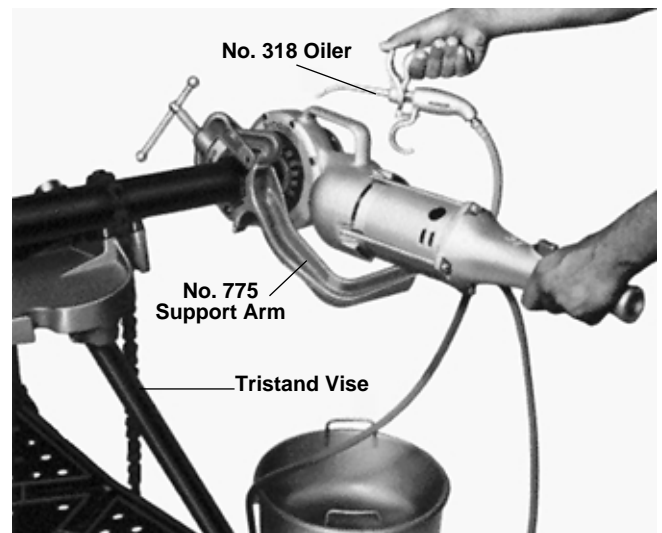

Figure 4 – Threading 2" Pipe with Vise
When threading pipe 1 inch or larger, the No. 775 Support Arm should be used and securely locked on pipe because of torque developed during threading (Figures 4 & 5).
3. Position No. 775 Support Arm on pipe so end of tang is in line with end of pipe. (Figures 4 and 5)